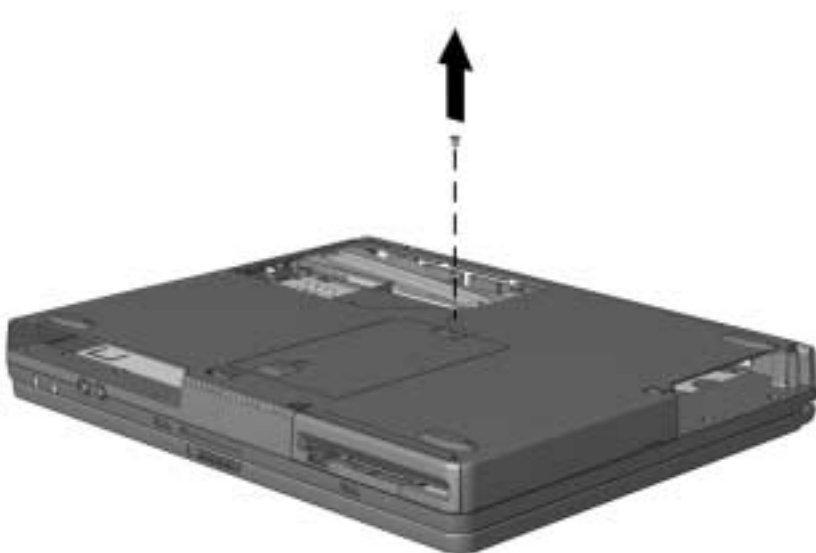

Figure 5-7. *Removing the Keyboard Screw*
3. Remove the screw that secures the keyboard (Figure 5-7).